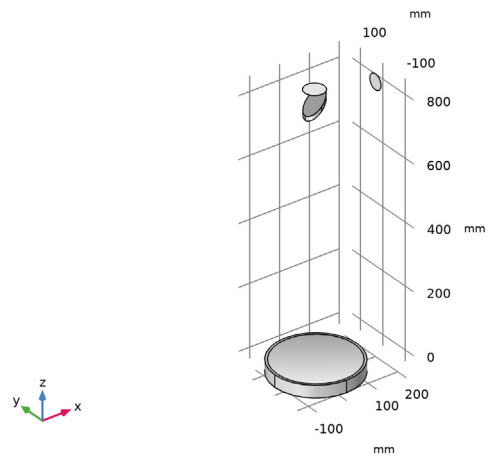

Figure 1: The Newtonian telescope geometry.
The telescope geometry (see Figure 1) comprises two mirrors and two circular annuli. The primary mirror is a paraboloidal (conic constant  $k = -1$ ) and has a radius of curvature of 2.0 m. The primary mirror has a clear aperture slightly larger than the nominal 250 mm entrance pupil diameter. This gives the telescope a 1.0 m focal length with an  $f/4$  focal ratio. The secondary mirror is folded at  $45.0^\circ$ , and it is elliptically shaped so that the obstruction can be minimized. An offset is applied to the axis of the fold mirror so that the incident cone of rays is centered on the mirror. The fold is sized so as to permit a telescope field of view of  $\pm 30$  arcminutes. The first circular annulus is placed ahead of the secondary mirror to emulate the obstruction by mount for this mirror. The second annulus is placed at the folded focal plane.
- 8 Click the  **Zoom Extents** button in the **Graphics** toolbar. Compare the resulting geometry to Figure 1.